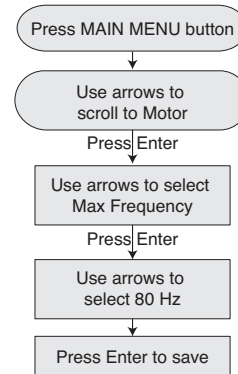

Figure 11 - Select 80 Hz (3-phase submersible operation only)
- ◆ Follow the keypress sequence shown in Figure 11.
- ◆ Press Main Menu and follow the keypress sequence shown in Figure 11. Be sure to press ENTER to save the new Max Frequency selected. The Intellidrive will now use the new value selected.